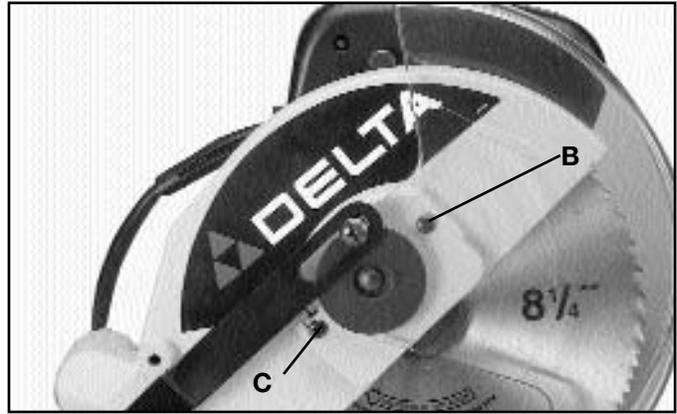

Fig. 28
2. Loosen screws (B) and (C) Fig. 28, and rotate lower blade guard assembly to the up position.